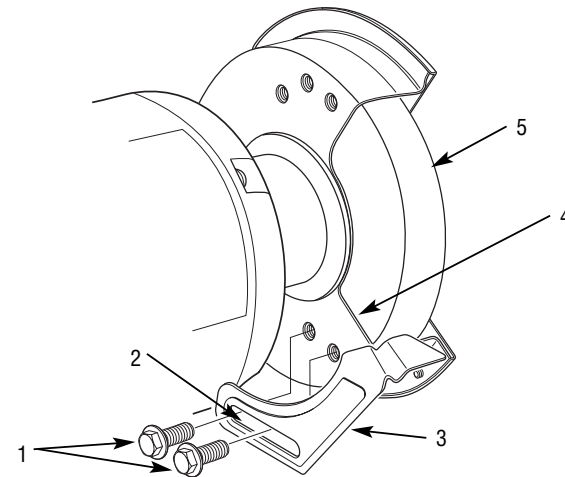

FIGURE 2. INSTALLING THE R/H TOOL REST
When installing the Tool Rests on the bench grinder, NOTE there is a Left Tool Rest and a Right Tool Rest. The tool rest shelf ALWAYS points away from the motor and the two different tool rests cannot be installed on the wrong side. See Figure 2.
1. Attach the clear plastic Eye Shield (1) to the Eye Shield Mounting Bracket (3) using the two mounting screws (2) as shown in Figure 2.
2. Attach the Eye Shield and Mounting Bracket to one of the three mounting holes in the Grinding Stone Guard (5) using the Adjustment Knob, Split-lock Washer and Flat Washer (4).